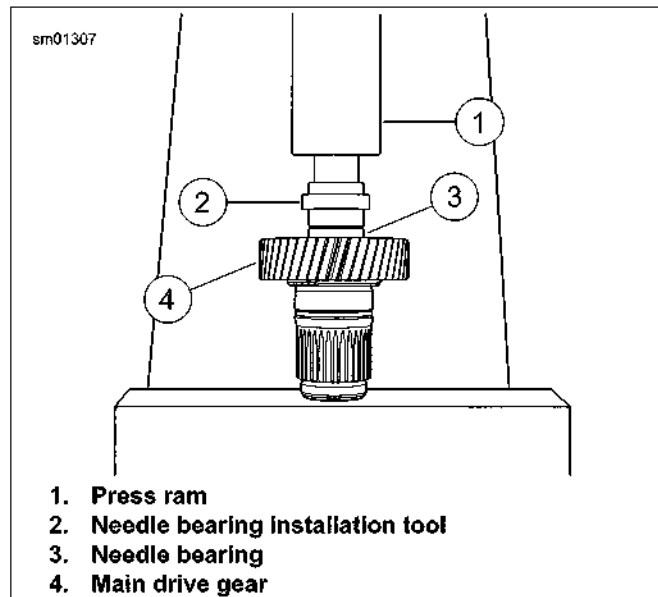

Figure 5-47. Pressing Inner Needle Bearing Assembly into Main Drive Gear
- See Figure 5-47. Place main drive gear (4) on press bed with gear end facing up.
- Place needle bearing (3) squarely into end of drive gear with lettered side of bearing facing up. Always press on lettered side of bearing to install. Insert the INNER/OUTER MAIN DRIVE GEAR NEEDLE BEARING INSTALLATION TOOL: XL MODELS (Part No. HD-47855) (2) with end stamped "INNER" facing needle bearing.